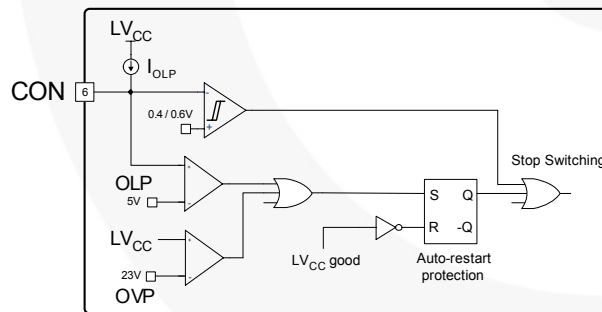

Figure 21. Internal Block of Control Pin
4. Control Pin: The FAN7621B has a control pin for protection, cycle skipping, and remote on/off. Figure 21 shows the internal block diagram for control pin.